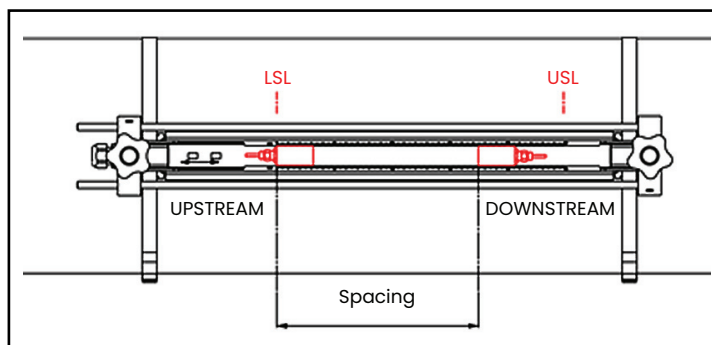

Figure 14: Installation for two traverses with one fixture
5. See figure 14 below for an example of a completed installation. In this drawing, LSL is the lower specified limit and USL is the upper specified limit for the installation.